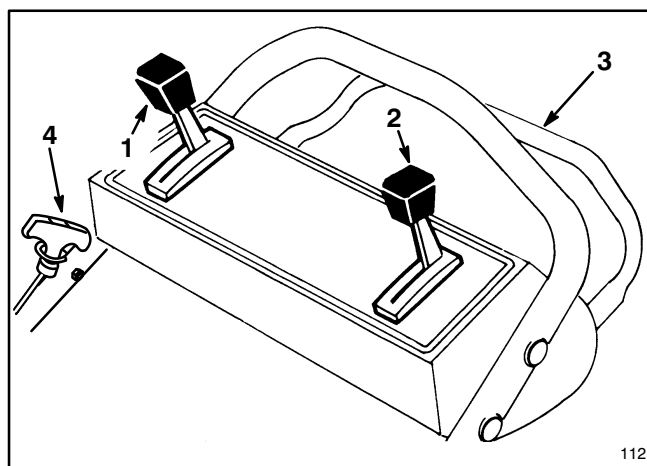

Figure 9
CONTROLS—Throttle, ground speed control, and self-propelled control bar and fingertip starter are on upper handle (Fig. 9).
6. **TRACTION OPERATION** (Fig. 9)—Move ground speed control to desired setting. Number “1” is slow, “2” is medium, and “3” is a fast walking pace. Ground speed varies, depending on space between control bar and handle. Move ground speed control to **N** when using the mower for trimming and whenever leaving the mower.